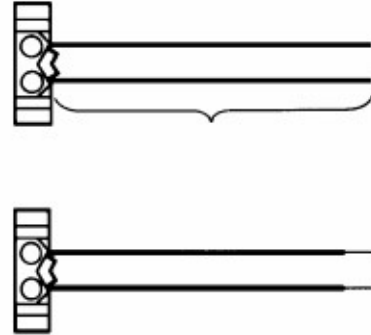

Figure 12M-35
4. Locate the yellow coloured SRS main wiring harness connector at the base of the steering column lower cover (refer Fig. 12M-24). Using a 'seam splitter' cut back insulation from main wiring harness to expose yellow coloured connector leads. Cut connector from the main wiring harness, leaving at least 15 cm of wire at the connector.